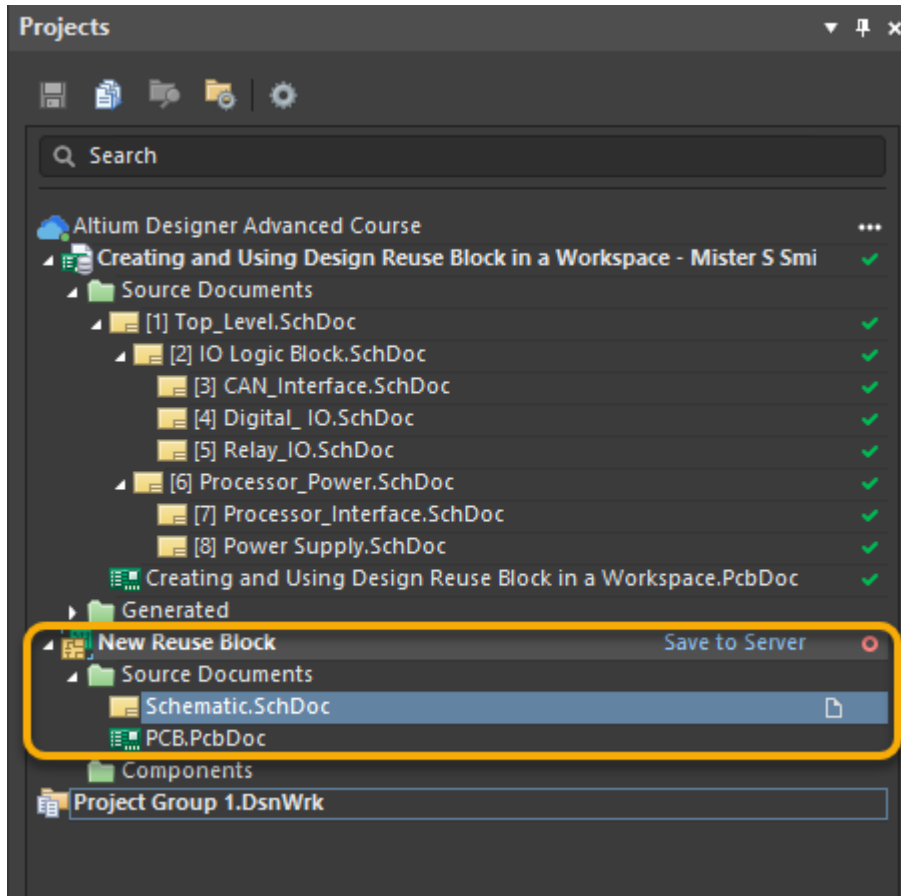

Figure 3. New Reuse Block
15. Open or change focus to the *Project* panel. A new branch was added to the *Project* panel. Under the Workspace name, you can see New Reuse Block project added with a default Schematic and PCB file, Figure 3.